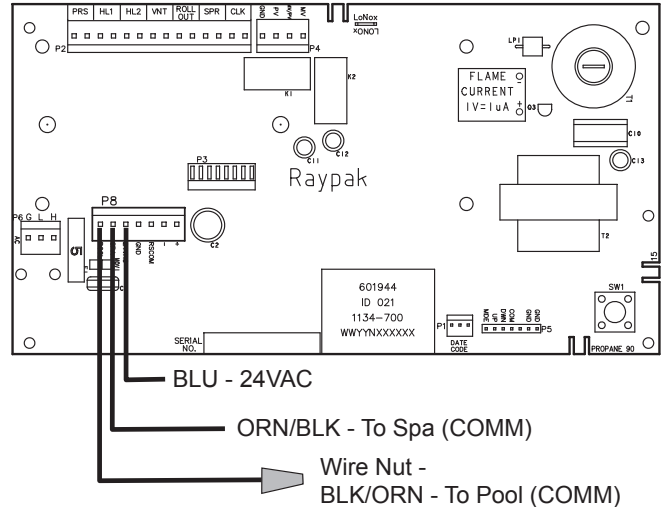

Figure 56. 2-Wire Remote Harness Installation on the P8 Connector of the Board
- Install the “7-Pin Remote Interface Harness” to the P8 connector and turn power “ON” to the heater. See **Figure 56**.